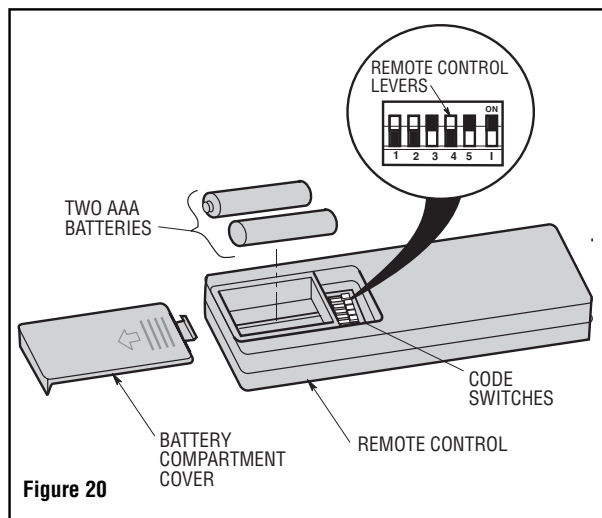

Figure 20
1. Remove the battery cover by pressing firmly below the arrow and sliding the cover off the control (Figure 20).